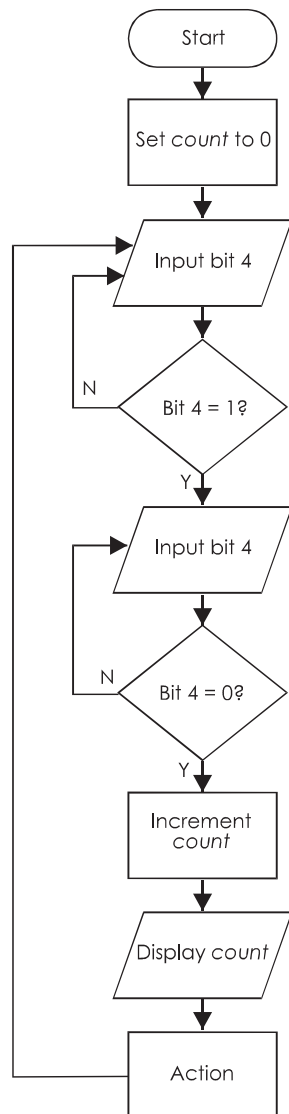

FIGURE 38.12 Counting events requires two checks on the input level.
- 10) Counting events**, such as the number of packages passing by on a conveyor belt, are programmed in the flow chart shown in Figure 38.12. This flow-chart illustrates two important principles. The first is that all stored values must be **initialised** at the beginning of a program. It is not sufficient to assume that a given bit will be '0' to begin with. It might have been set to '1' by a previously run program. Here, the first thing is to set the counter value to zero.